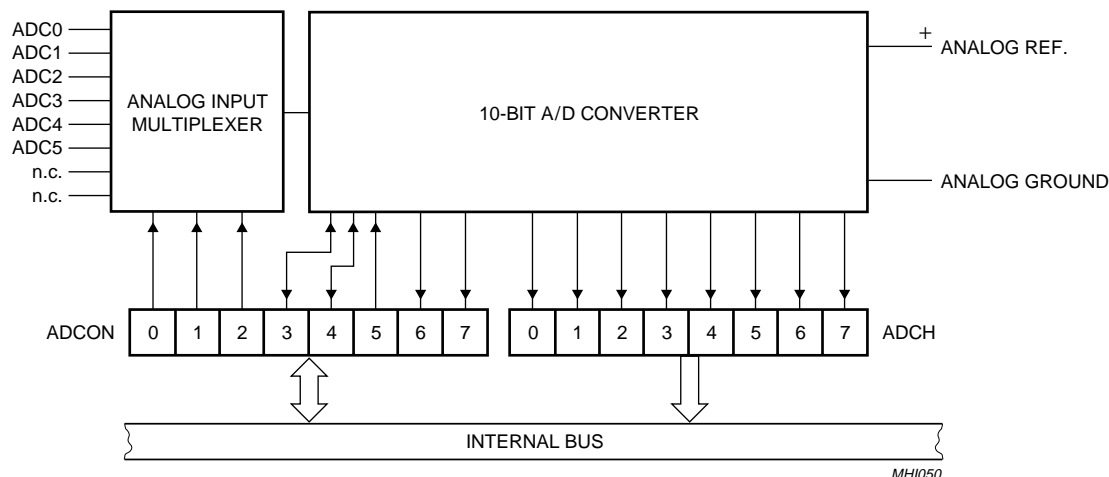

Fig.48 Functional diagram of Analog Input Circuitry.
The analog input circuitry consists of an 6-input analog multiplexer and a 10-bit, straight binary, successive approximation ADC. The A/D can also be operated in 8-bit mode with faster conversion times by setting bit ADC8 (AUXR1.7). The 8-bit result will be contained in the ADCH register. The analog reference voltage and analog power supplies are connected via separate input pins. For 10-bit accuracy, the conversion takes 50 machine cycles, i.e., 25 μ s at an oscillator frequency of 12 MHz. For the 8-bit mode, the conversion takes 24 machine cycles. Input voltage swing is from 0 V to +5 V. Because the internal DAC employs a ratiometric potentiometer, there are no discontinuities in the converter characteristic. Figure 48 shows a functional diagram of the analog input circuitry.
Figure 48 shows the elements of a successive approximation (SA) ADC. The ADC contains a DAC which converts of a successive approximation register to a voltage (V_{DAC}) which is compared to the analog input voltage (V_{IN}). The output of the comparator is fed to the successive approximation control logic which controls the successive approximation register. A conversion is initiated by setting ADCS in ADCON register. ADCS can be set by software only.
otherwise the bit being tested is cleared. This process is repeated until all ten bits have been tested, at which stage the result of the conversion is held in the successive approximation register. Figure 48 shows a conversion flow chart. The bit pointer identifies the bit under test. The conversion takes four machine cycles per bit.
Figure 48 shows how the ADC is realized. The ADC has its own analog ground (AV_{SS}) and a positive analog reference pin (V_{ref+}) connected to each end of the DAC's resistance-ladder. The ladder has 1023 equally spaced taps, separated by a resistance of "R". The first tap is located $0.5 \times R$ above AV_{SS} , and the last tap is located $1.5 \times R$ below V_{ref+} . This gives a total ladder resistance of $1024 \times R$. This structure ensures that the DAC is monotonic and results in a symmetrical quantization error is shown in Figure 48.